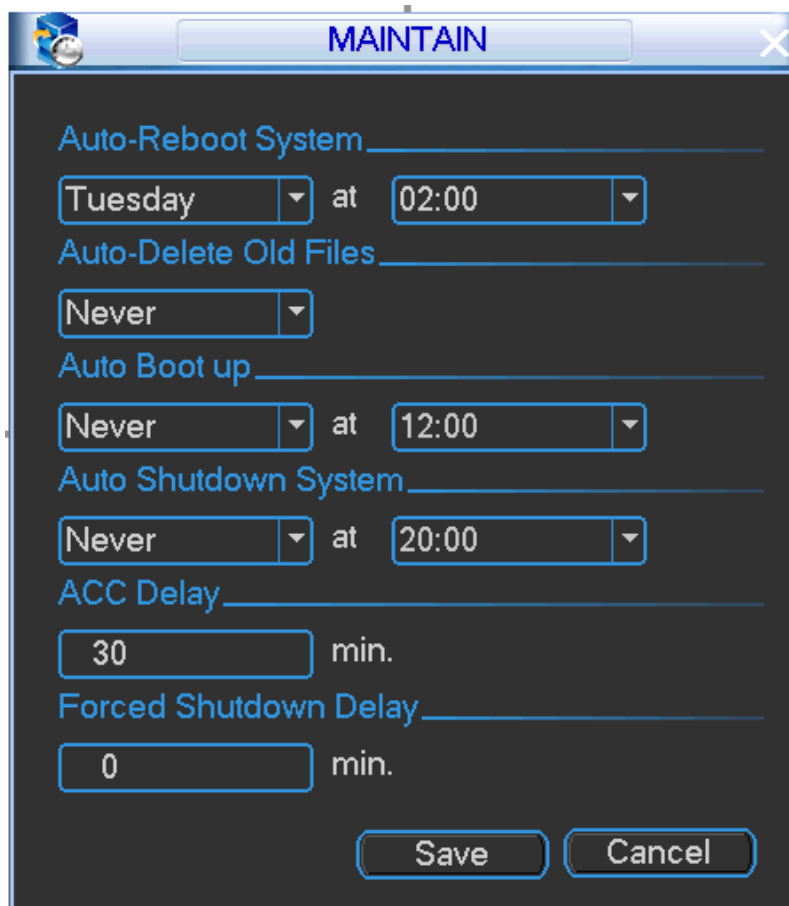

Figure 4-82
Step 1 From Main Menu->Setting->System->Maintain, the interface is shown as in Figure 4-82.